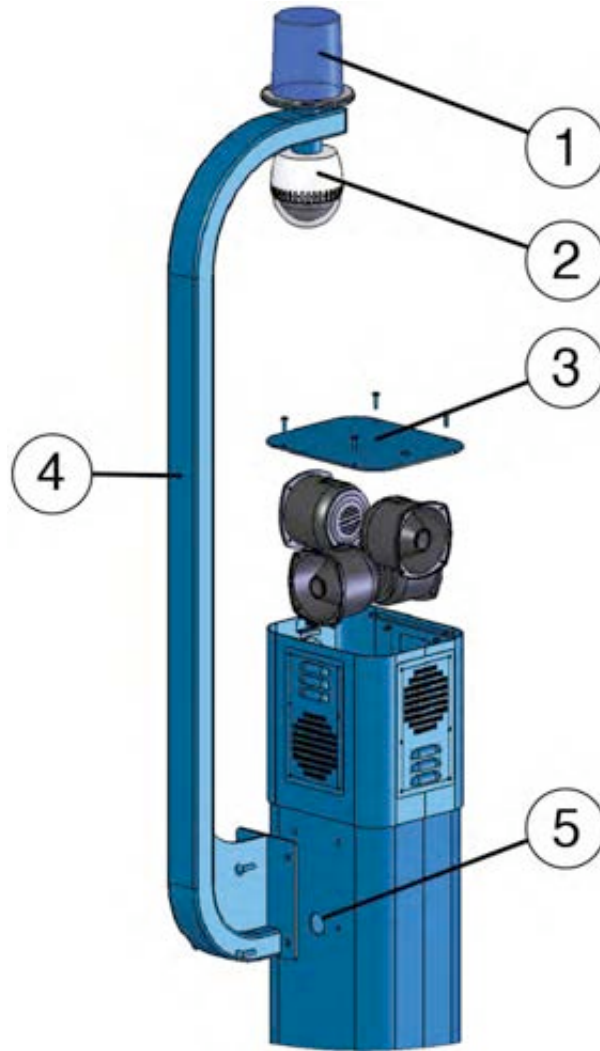

Figure 1. Installing the WEBS® Tower Arm: (1) Strobe Light, (2) CCTV Camera, (3) Cap, (4) Tower Arm, (5) Cable Opening.
- 3) Remove the cap plate of the ETP-MT/R OP 4 tower top by unfastening three 10-24 x 3/4" pan head tamperproof screws and keep them safely aside (See Figure 1).